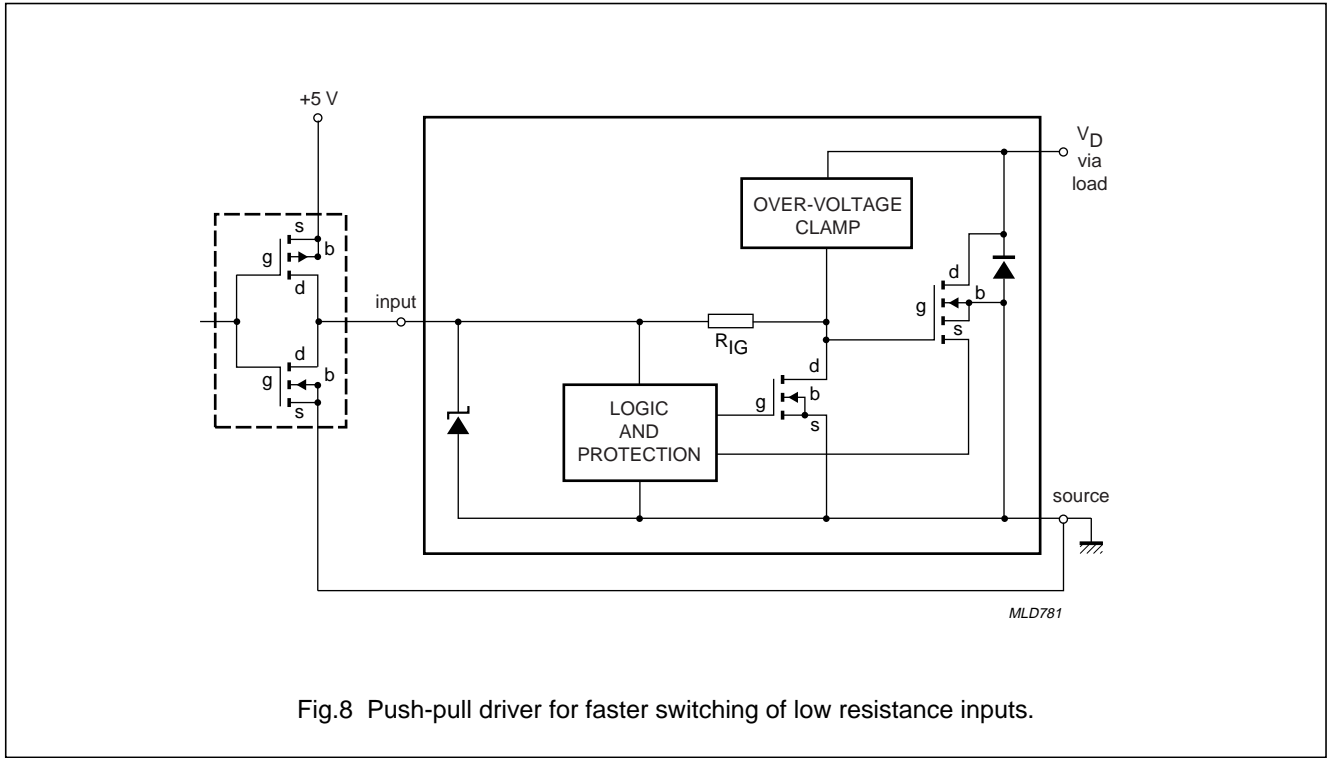

Fig.8 Push-pull driver for faster switching of low resistance inputs.
- A complementary push-pull driver, either a CMOS IC gate or discrete, will be required if a device with lower  $R_{IG}$  is specified to give increased switching speed (see Fig.8).